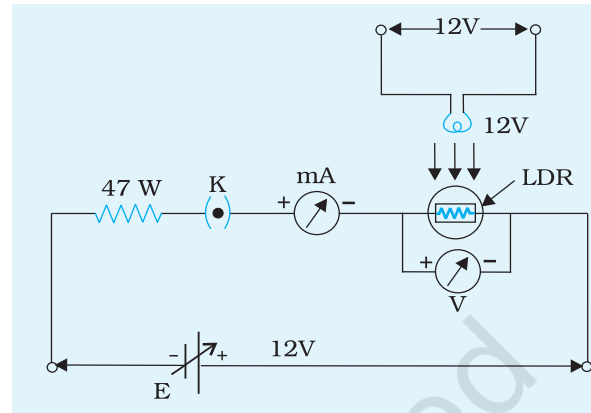

Fig. A 7.2 Circuit to study the effect of intensity of light on a LDR.
1. Assemble the circuit as shown in Fig. A 7.2.